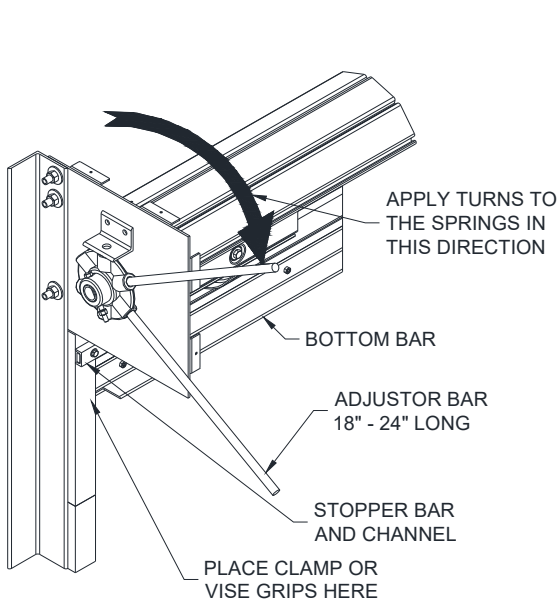

Figure 8.5 – Clamping the Guides, Applying Turns.
5. Replace stop pin or bar into adjustor wheel as shown in **Figure 8.5** and insert the cotter pin to hold it in place.